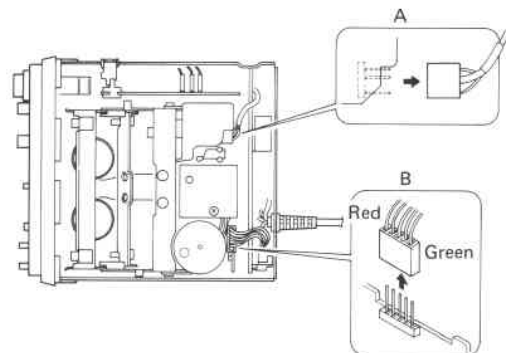

Fig. 10
4. Remove Connectors (A) and (B) as indicated by the arrows (Fig. 10).
**Notice:** Check the position of connector (B) when removing.